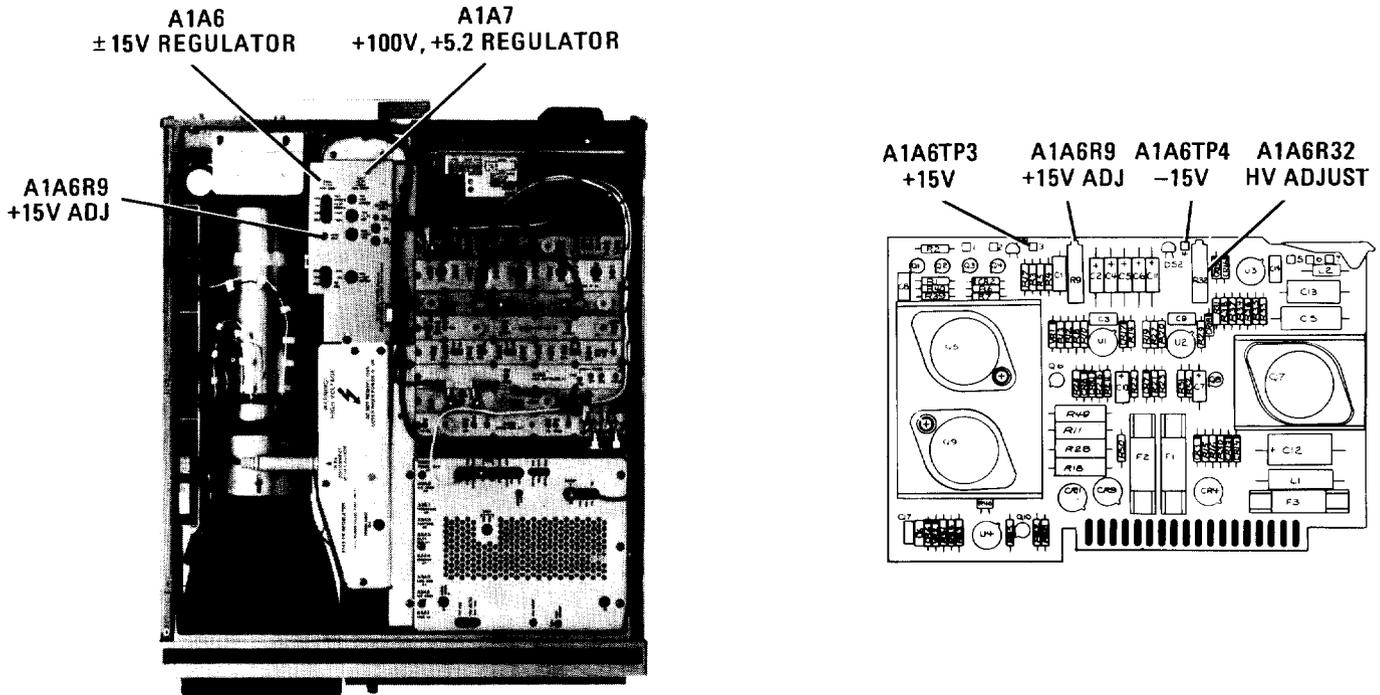

FIGURE 2. LOCATION OF IF-DISPLAY SECTION LOW VOLTAGE ADJUSTMENTS
4. DVM indication should be $+15.000 \pm 0.010$ Vdc. If voltage is out of tolerance, adjust A1A6R9 +15V ADJ for specified voltage. Location of adjustment is shown in Figure 2.
14. Adjust A1A6 HV ADJ, A1A6R32, for a DVM indication equal to the calibration factor (calculated in step 7) times the voltage labeled on the top of A1A3 High Voltage Regulator. Refer to Figure 2 for location of adjustment.